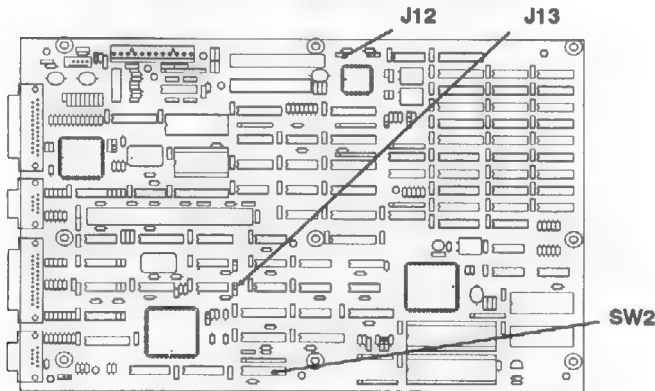

Figure 3. Video Display Switch and Jumper Locations
2. Use Figure 3 to find switch bank SW2, and jumpers J12 and J13 on the system board. Switches 1 and 2 in SW2 select the video mode of the onboard video controller. Jumper J13 enables or disables the onboard video controller.